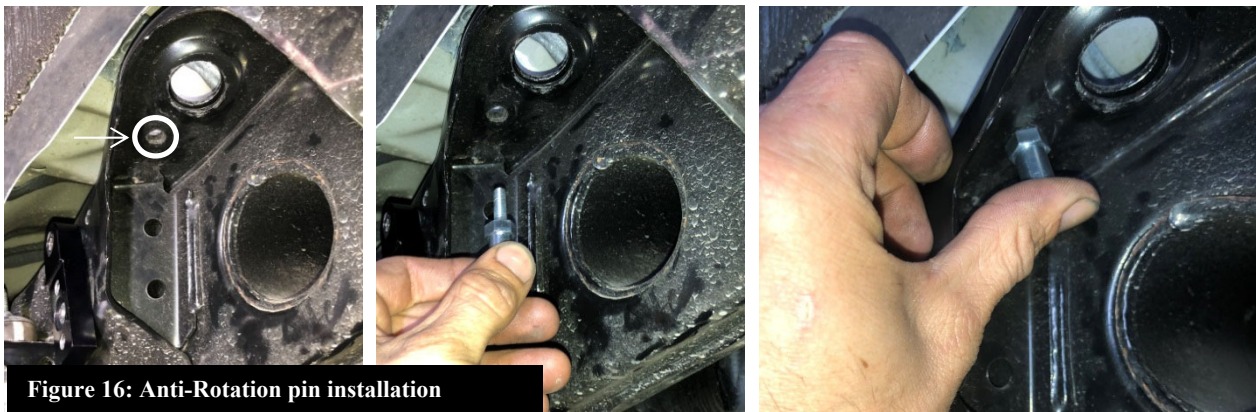

Figure 16: Anti-Rotation pin installation
- U. Place the Anti-Rotation Pin (BOM item #1) into the frame hole circled in white below. This hole is towards the front of the shock mount hole. Refer to Figure 16.